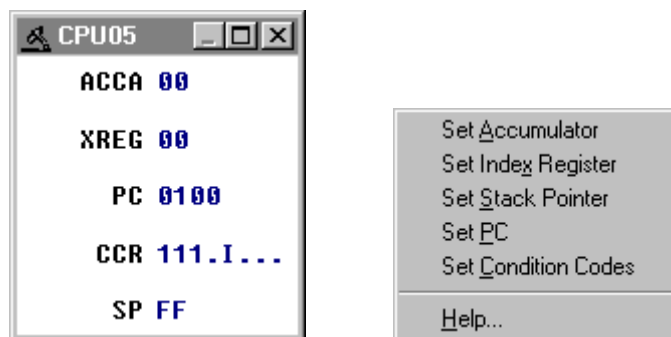

Figure 6-13. CPU Window with Shortcut Menu
Use the CPU Window (Figure 6-13) or its Shortcut Menu options to view and modify the current state of registers within the CPU.
- To change CPU register values using the Shortcut menu options, position the cursor in the CPU window and click the right mouse button. Choose the option from the shortcut menu shown on the right of Figure 6-13. Enter the new value in the dialog and press OK to close the dialog and save the new value.